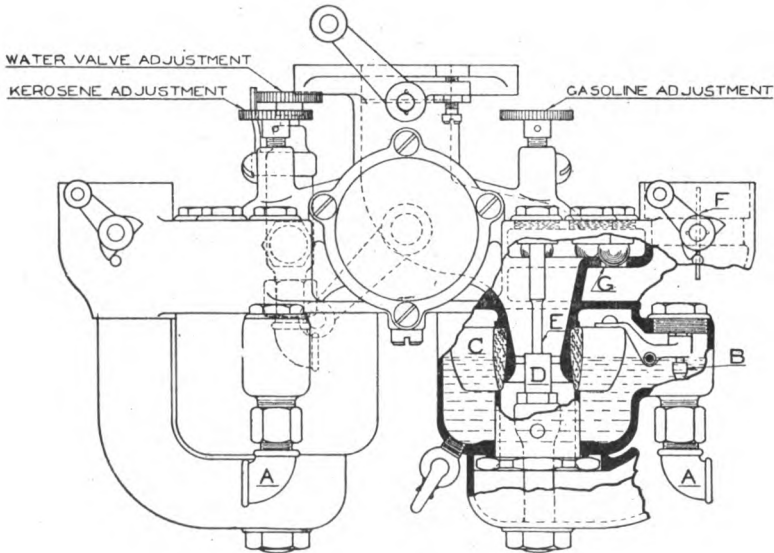

Fig. 96. Part Section of Kingston Dual Form of Carburetor
**Kingston Dual Form.** This form, as shown in Fig. 96, is really two of the enclosed models, just described, attached to a common outlet and with a single throttle valve. It is intended for use with heavy fuels; one side is connected up for gasoline, which is used in starting and for exceptionally slow speeds long continued, while the other side is set for heavy fuel, such as kerosene, distillate, etc., and is used as soon as the engine running on gasoline has heated up sufficiently. It will be noted that one-half of this device is fitted with a water valve, which is placed on the heavy fuel side. It is a gravity valve seated by its own weight at low speeds and lifted progressively at higher speeds until wide open. In continuous running on heavy